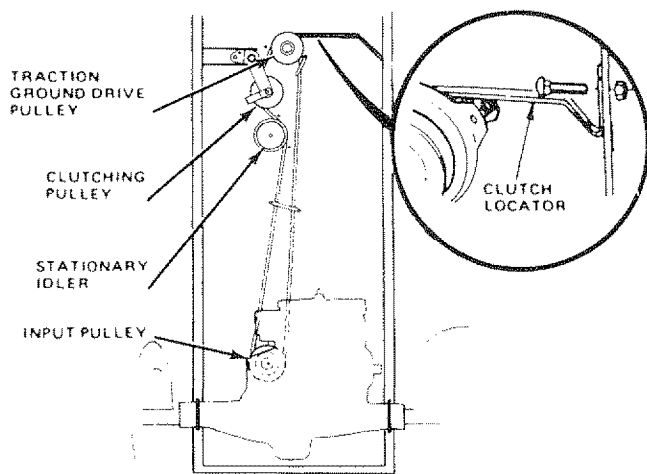

FIGURE 33
- Remove belt from (3) stationary idlers (Fig. 33).
- Release parking brake. Pull belt as far as possible over top of clutching pulley (Fig. 33).
- Using a 9/16" wrench, remove clutch locator (Fig. 33 - Inset).